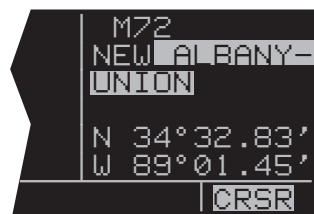

Figure 3-83
- Pull the right inner knob to the "out" position (figure 3-83).